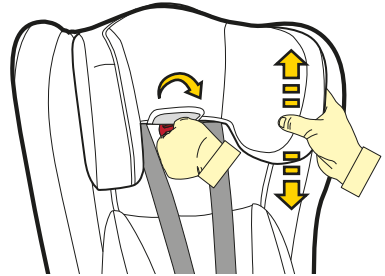

Figure 2
Step 3: Lift up or push down the headrest so that the shoulder strap slots are level with or slightly above your child's shoulders. If the headrest is just above the shoulders then the harness level will be correct (refer Figure 2).